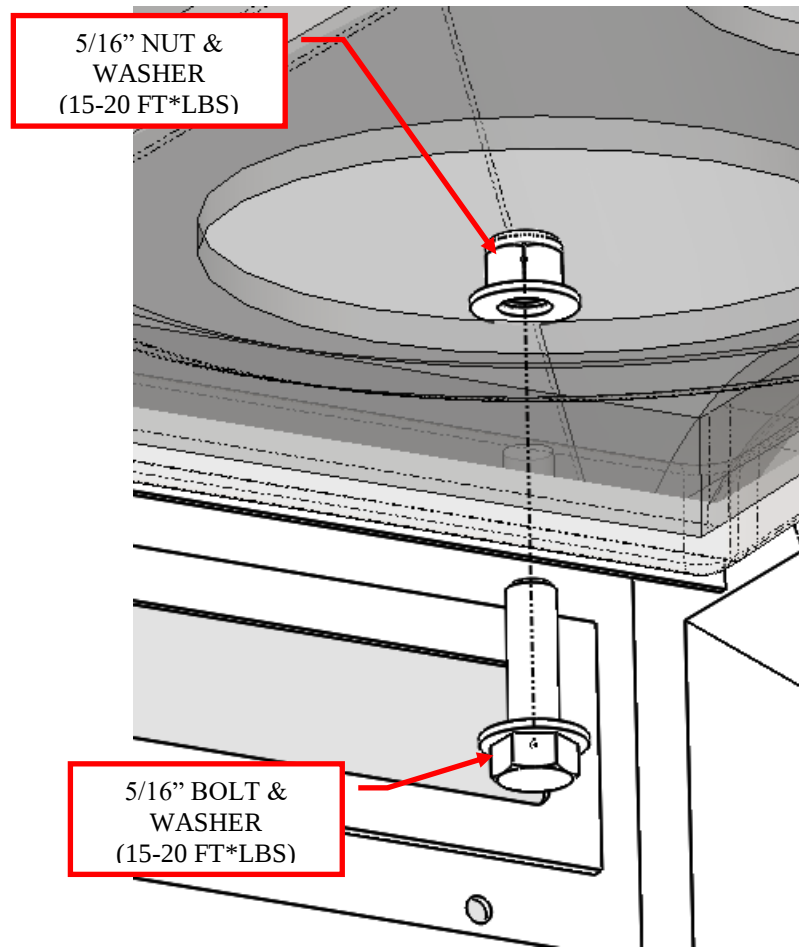

Figure 7: Install the hardware in the top.
8. Bolt the top to the cage using the supplied 5/16" hardware. Make sure and use the nylock nut and washer inside the top and use a bolt and washer outside. Torque to 15 to 20 ft.*lbs. See Figure 7.